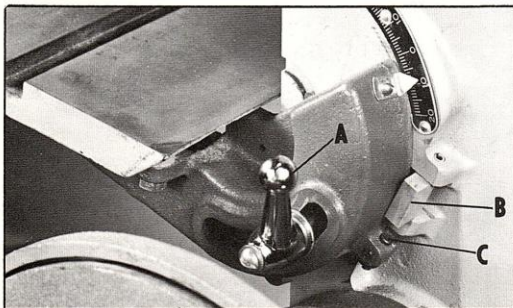

Fig. 9.
1. Loosen the table tilting handle (A) and lift the table up to approximately 10° , as shown in Fig. 9.
2. Flip out the stop bracket (B) and lower the table until the adjustable screw (C) contacts the stop bracket (B) Fig. 9.